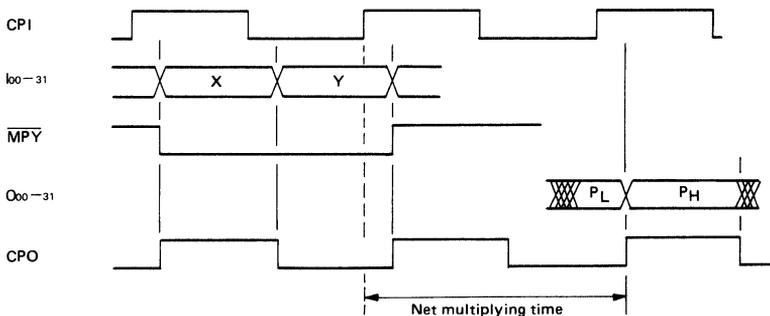

Fig. 9
* For example, when X, Y, control signals MPY, XM, etc., and the timing for fetching the multiplied results P that have been output by this LSI all synchronize with CPO, CPI may be made to lead CPO as shown in Fig. 9. Such an arrangement offers the advantage of a shorter cycle time (CPI/CPO cycle).